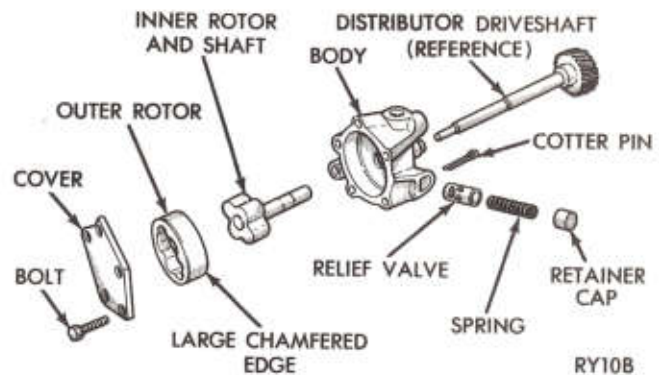

Fig. 56—Oil Pump
- (2) Remove oil pump cover bolts and lock-washers, and lift off cover.
- (3) Remove pump rotor and shaft, and lift out outer rotor.
- (4) Wash all parts in a suitable solvent and inspect carefully for damage or wear (Fig. 56).